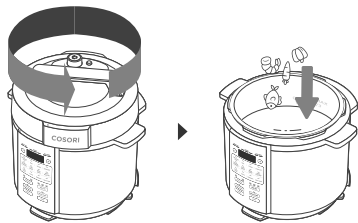

Figure 5.1
- 1. Twist the lid counterclockwise and lift to open. Add the ingredients to the inner pot. [Figure 5.1]